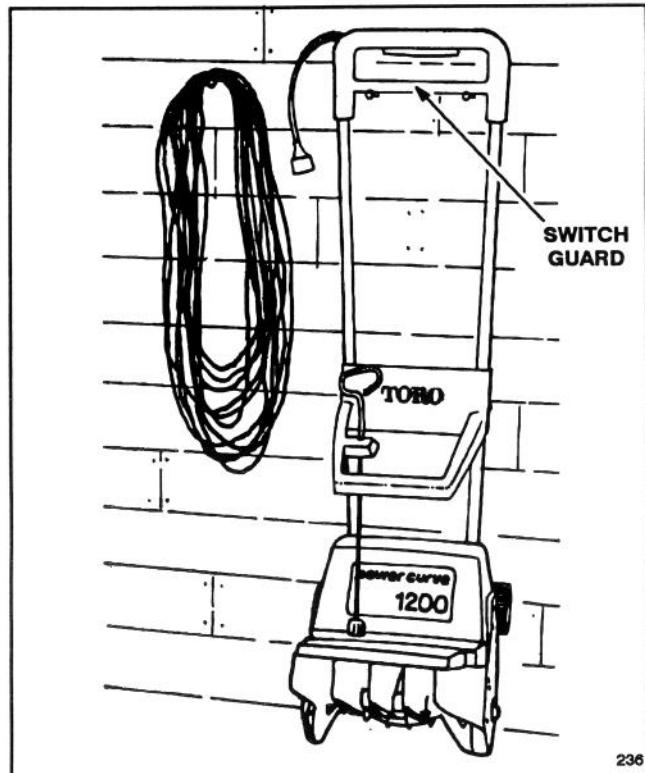

Figure 6
8. Remove the key and disconnect the extension cord when through using the snowblower. Keep key in a memorable place so it will not be misplaced. Set the vanes in a vertical position and hang snowblower up by switch guard for convenient storage and to prevent switch damage (Fig. 6). Hang the extension cord with the snowblower so it will not be misplaced or possibly damaged (Fig. 6).